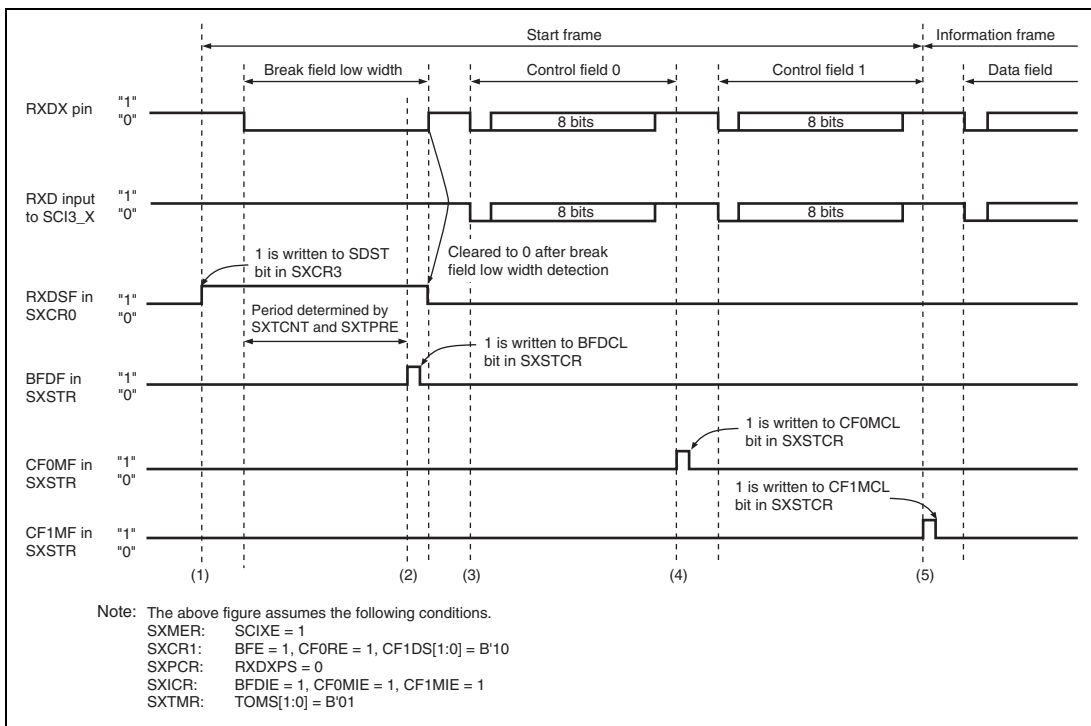
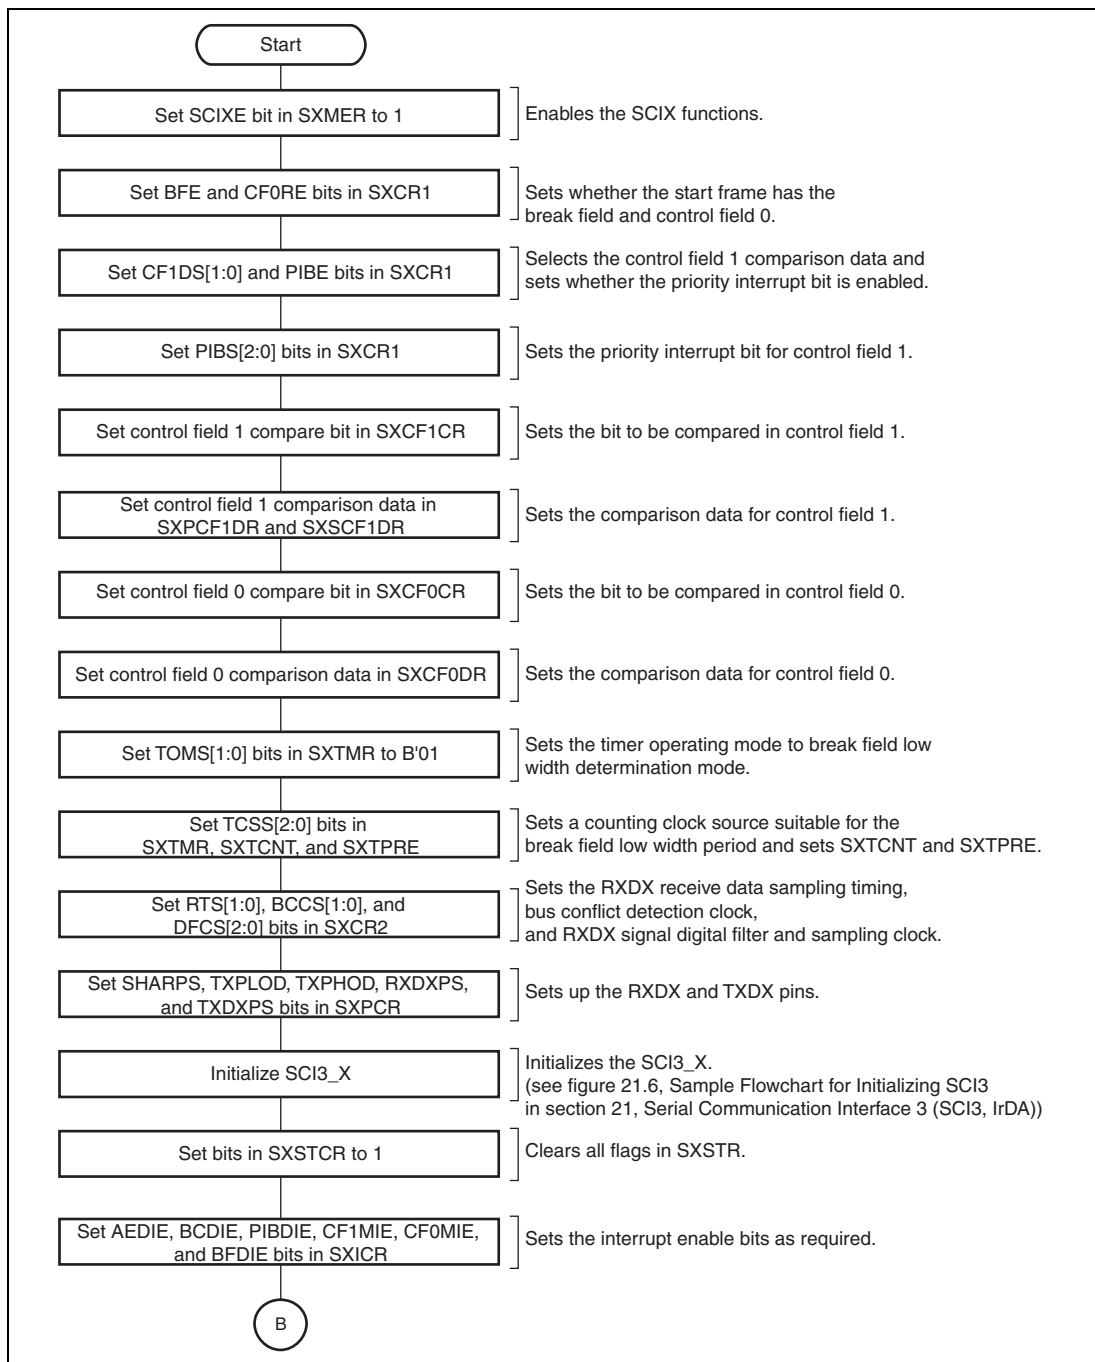
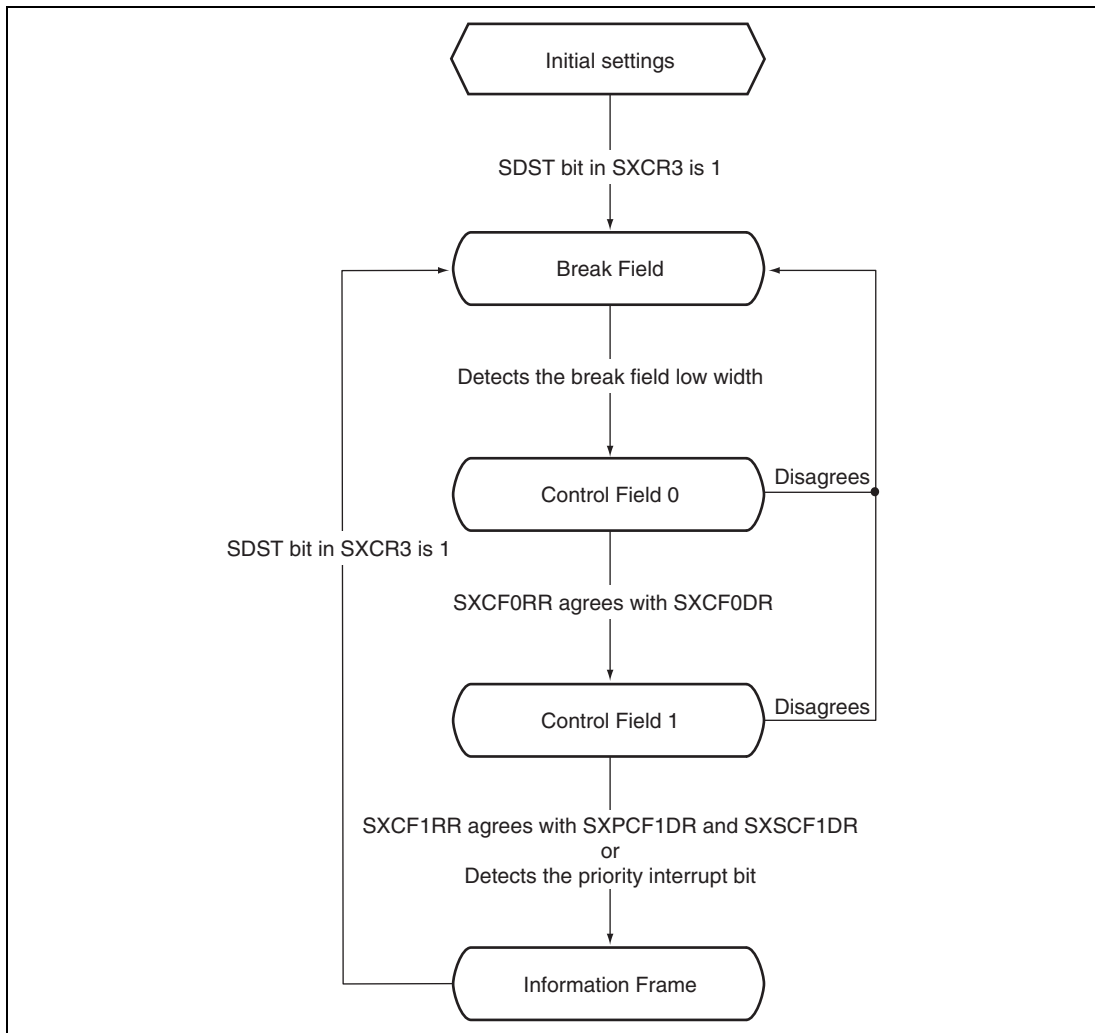

Figure 22.8 Start Frame Reception Example
Figure 22.9 Start Frame Reception Flowchart Example (1)
Figure 22.11 State Transitions in Start Frame Reception
Figure 22.8 shows an operation example of receiving a start frame consisting of the break field low width, control field 0, and control field 1. Figures 22.9 and 22.10 show flowcharts for receiving a start frame. Figure 22.11 shows the state transitions of the SCIX.
The SCIX receives a start frame in the following sequence. Steps 1 to 5 correspond to (1) to (5) in figure 22.8.
Steps 1 to 4 are identical to those given in the start frame reception example shown in figure 22.8.